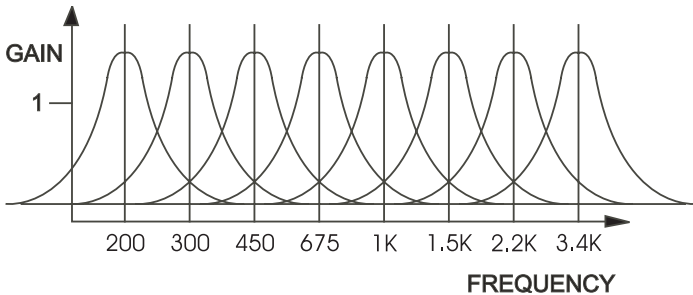

Figure 6 – Frequency Response of MuRF in Basic Setup
5) Now, play a bright, sustained sound, preferably of low pitch into the MuRF - keep in mind that filter effects work by *removing* frequencies, so you must have a bright sound to hear the effect! Figure 6 shows the MF-105's basic frequency response, the response that you hear when the panel controls are set up as in the basic setup. Note that there are 8 resonances – they impart warmth and color to the sound. For a moment press the bypass switch and turn the effect off. Note the change in character of the sound. Now switch the effect back on.